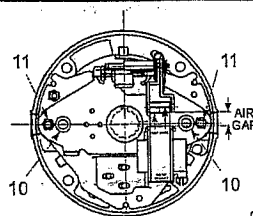

Figure 3
Turn both spring adjustment screws (11), Figure 3, equal amounts: counterclockwise to decrease torque. See Table A for torque reduction permissible amounts.